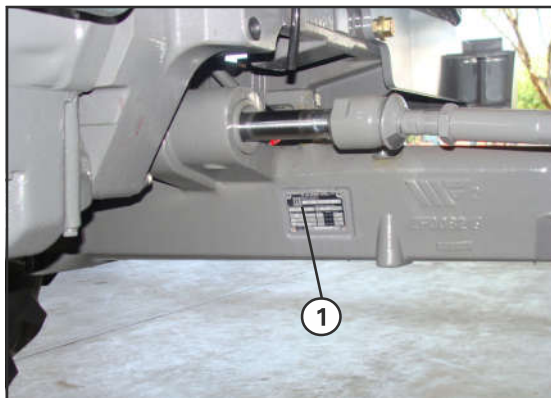

Fig. 30
Located in the axle right side (1)(Fig.30).